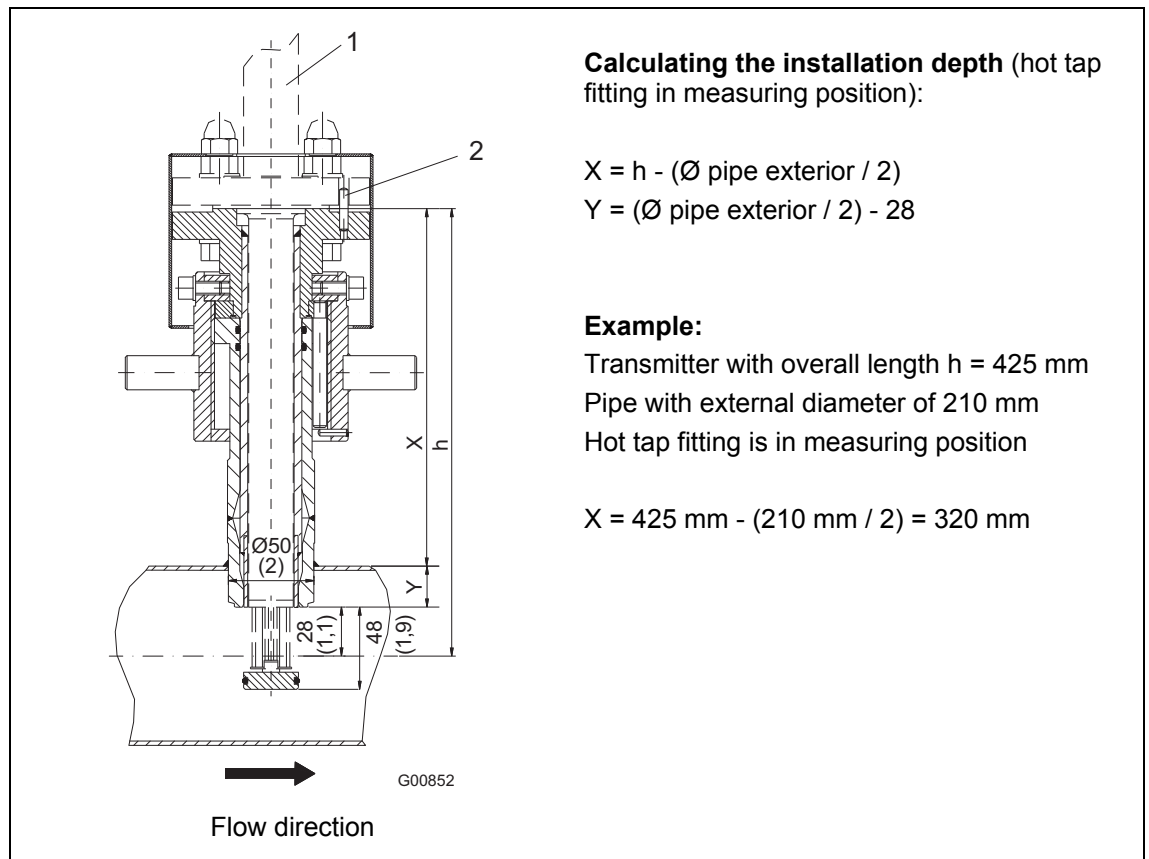

Fig. 12: Dimensions in mm (inches) Hot tap fitting in measuring position.
- The adapter centering pin must be aligned with the pipe axis in the flow direction (outflow side, behind the measuring point), see Fig. 12.